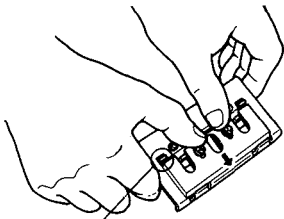

Fig. 14
- (2) Insert the set gauge plate spring into the hole on the back metal and heavily push the plate spring in the direction indicated by the arrow in Fig. 14 until it snaps into the correct position.